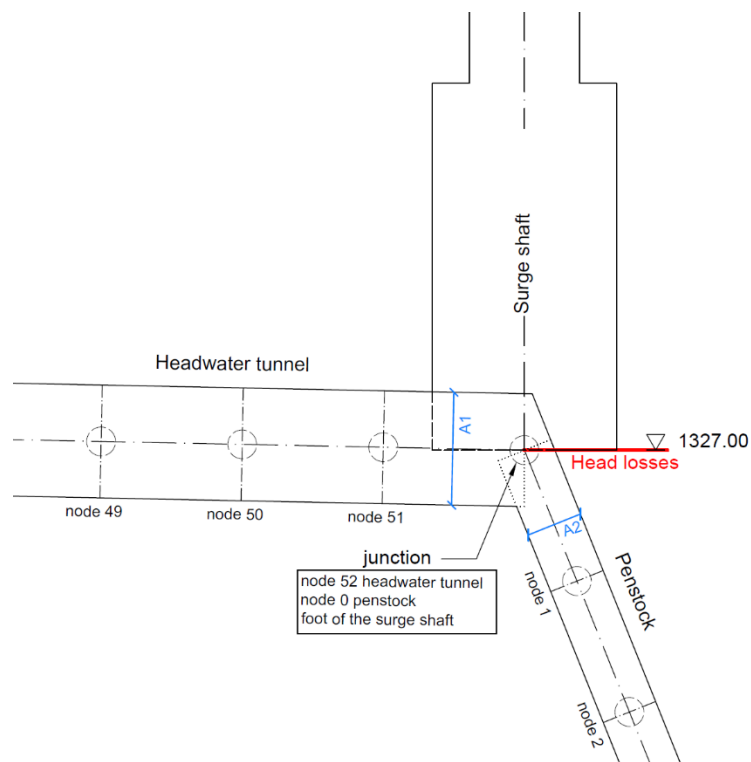

Figure 2 : Junction
- Head losses are determined at the junction (Figure 2) between the headrace tunnel, the penstock and the surge shaft.